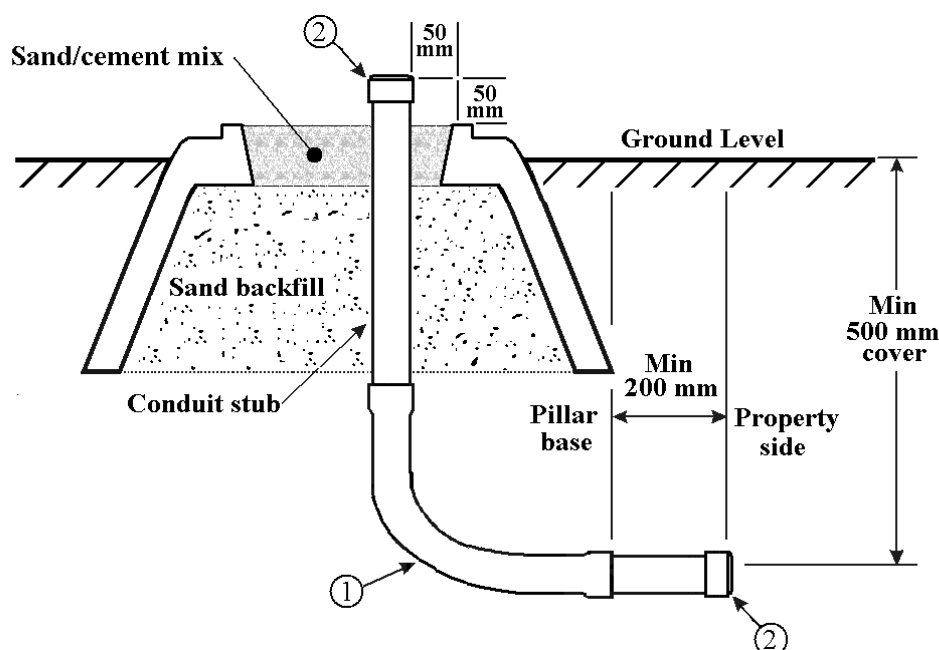

Figure 21.3 – Conduit Stub Details
5. Refer to Figure 21.3 for service conduit stub details (if applicable).
12. A conduit stub shall be installed in accordance with Figure 21.3 for each cable that has not been initially laid prior to the installation of the pillar noting the following: